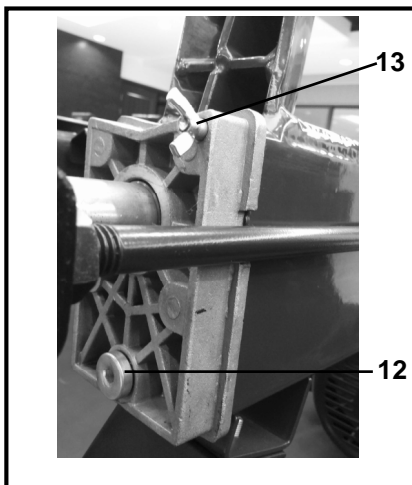

Fig. 3
Warning! Before operating the log splitter, the Bleed Screw (13) Fig. 3, should be loosened by some rotations until air can go in and out of the oil tank smoothly.